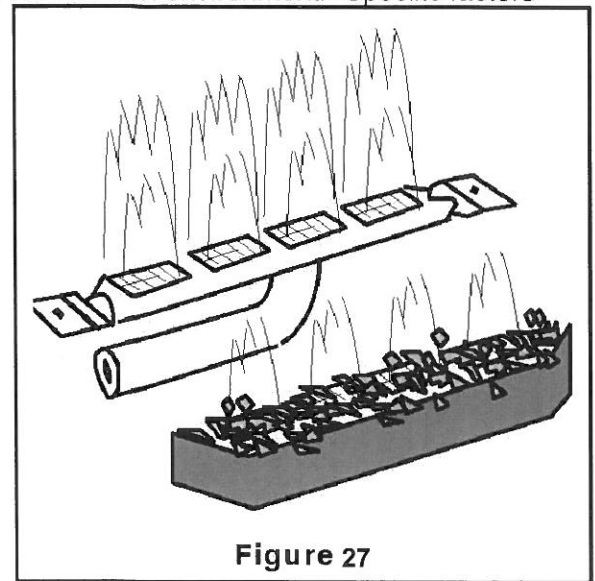

Figure 27
- A full bodied, lively flame. The flame will be blue at the base and a combination of blue and yellow at the body and tips. **Figure 27.**